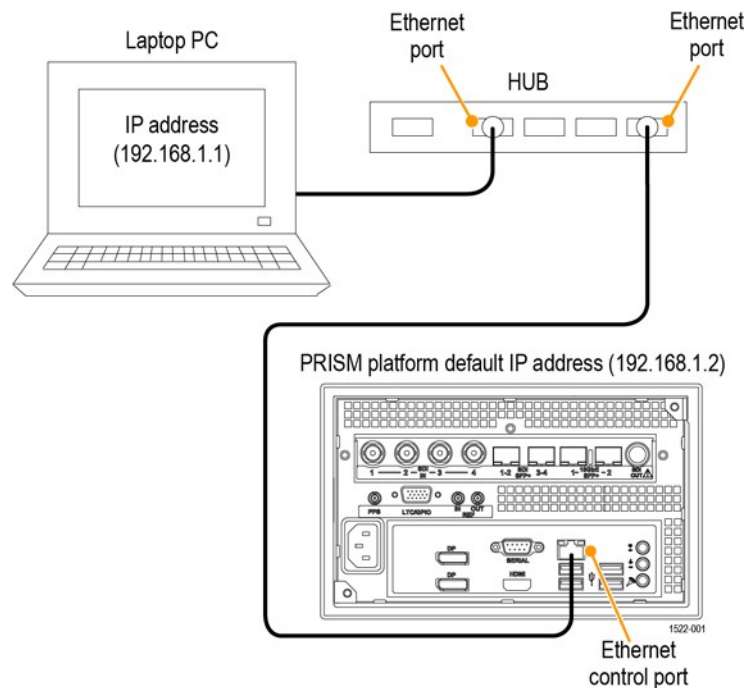

Figure 6: Connecting the instrument to a PC (MPI2-10 monitor shown)
1. Connect the instrument directly to a PC with an Ethernet cable. You can also use an Ethernet Switch. (See Figure 6.)